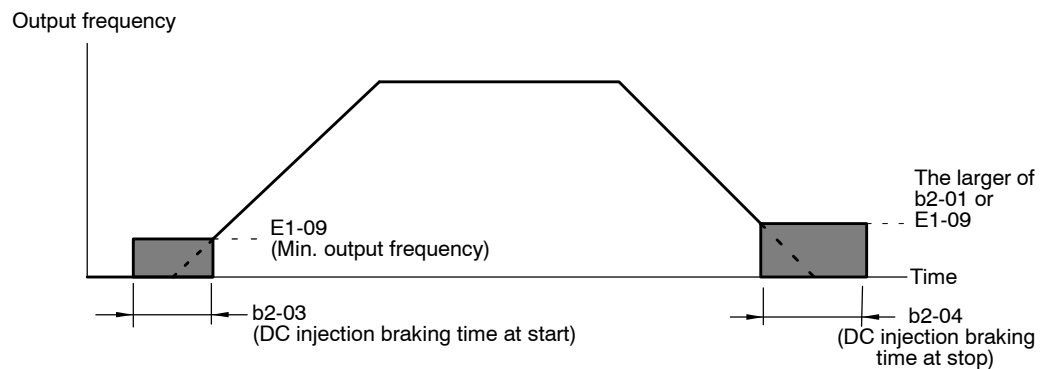

Fig 7.18 DC Injection Braking Timing Chart
- *Figure 7.18* provides a timing chart of DC injection braking (initial excitation).